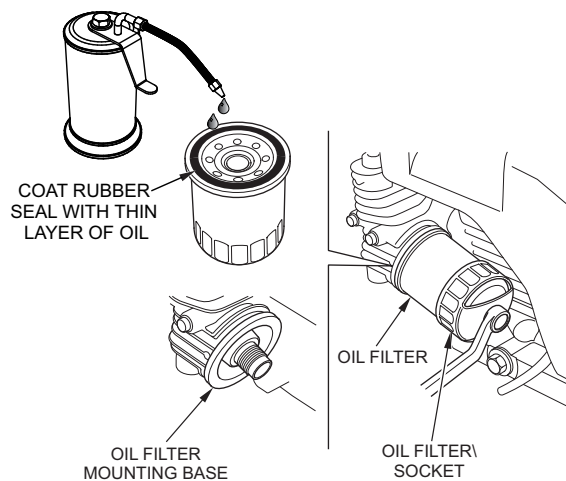

**Figure 30. Draining Engine Oil**
- Drain the engine oil into a suitable container when the oil is warm as shown in Figure 30.